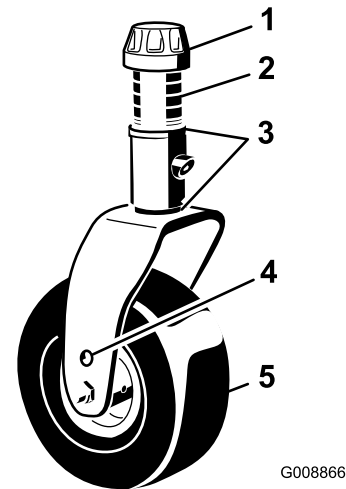

Figure 26
3. Adjust the shims (3 mm or 1/8 inch) on the front caster fork(s) to match the height-of-cut decal (Figure 26); refer to Adjusting the Mower-Deck Pitch \(page 59\).